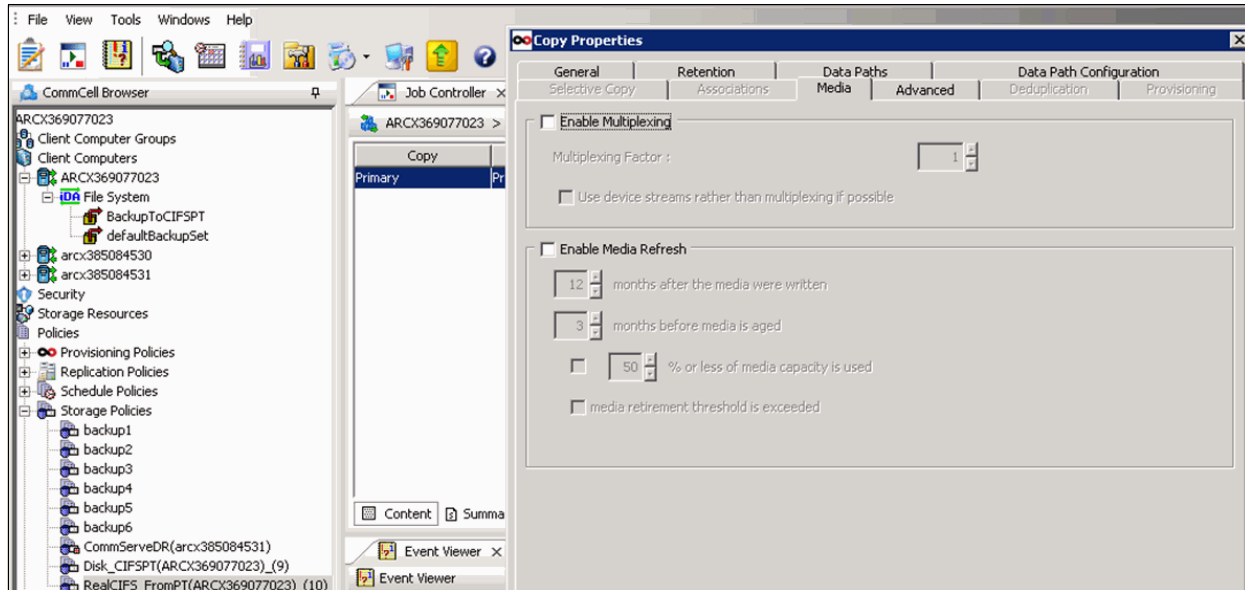

Figure 18-19 Clear Enable Multiplexing
2. From the Copy Properties (Media) window, clear the **Enable Multiplexing** check box (Figure 18-19).